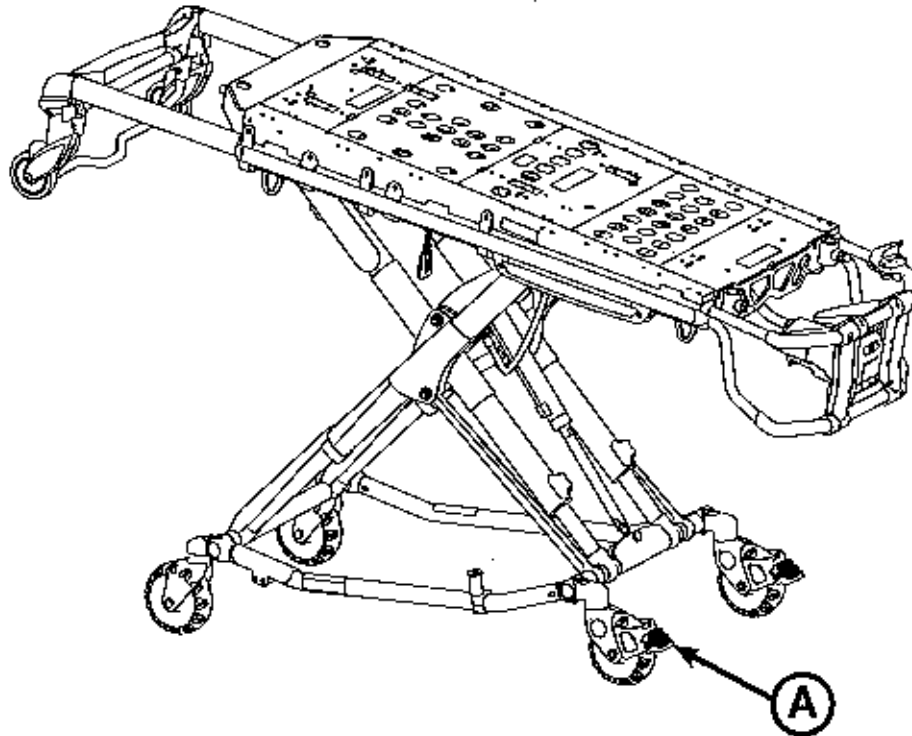

Figure 31: Wheel Lock
To activate the optional wheel locks, press fully down on the pedal (A) as shown in Figure 31 until it stops and is resting firmly against the surface of the wheel.